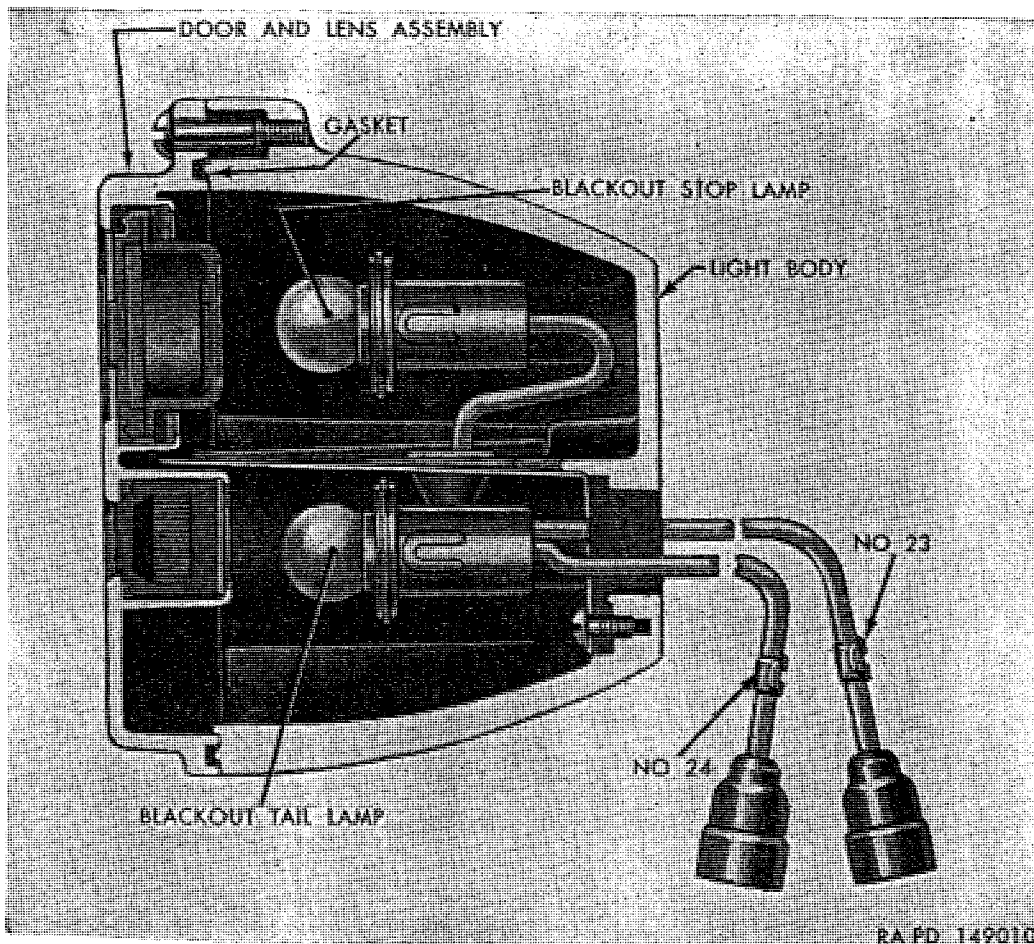

Figure 166. Sectional view of blackout stop and taillight.
a. Door and Lamp Replacement (fig. 166). Door and lamp replacement procedure is same as described for front marker lights (par. 163a).
- (1) *Removal.* Disengage light cables from clip on rear of light mounting bracket. Disconnect light cables from harness cables at bayonet-type connectors. Remove two cap screws and lockwashers attaching light assembly to bracket. Note that clips are secured under cap screw heads.
- (2) *Installation.* Insert cables through hole in brackets, position light assembly against bracket, and attach with two $\frac{3}{8}$ -16 x $\frac{5}{8}$ cap screws and $\frac{3}{8}$ -inch external-teeth lockwashers. Make sure clips are installed under cap screw heads. Connect light cables to harness cables, making sure cable numbers are matched. There are three light cables on left light and two on right light.